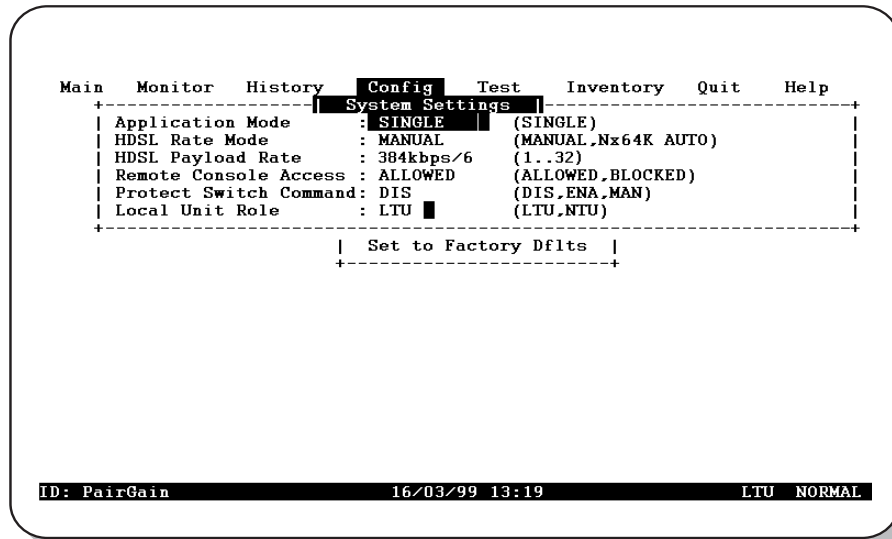

Figure 23. *Config System Settings Menu*
- 1 Type **S** at the *Config* drop-down menu to display the *Config System Settings* menu. Figure 23 shows the *Config System Settings* menu for the UTU-702C and ETU-752C.
The Data Rate/# of TSs and Beginning TS parameters in the Config LTU and NTU Interface menus are read-only displays. The Data Rate/# of TSs value is set in the Config System Settings menu as the “HDSL Payload Rate” (see Figure 23 on page 34). The Beginning TS value is fixed at 0.
Data Rate/# of TSs	Read-only display of HDSL data rate and corresponding number of time slots (TSs) as set automatically by TT clock (Nx64K AUTO mode) or by HDSL Payload Rate option in Config System Settings menu (MANUAL mode). See Figure 23 on page 34 . Default is 256kbps/4 .